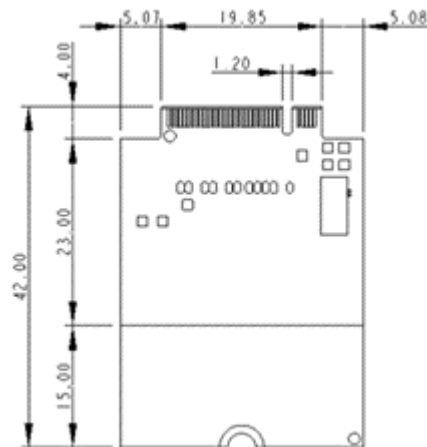

Figure 7-5: Copper Pad Location on Bottom Side of Module
Specific areas requiring heat dissipation are shown in Figure 7-5:
- Monitor temperature at all shield locations. Attach thermocouples to the areas indicated in Figure 7-5 (RF, Baseband).